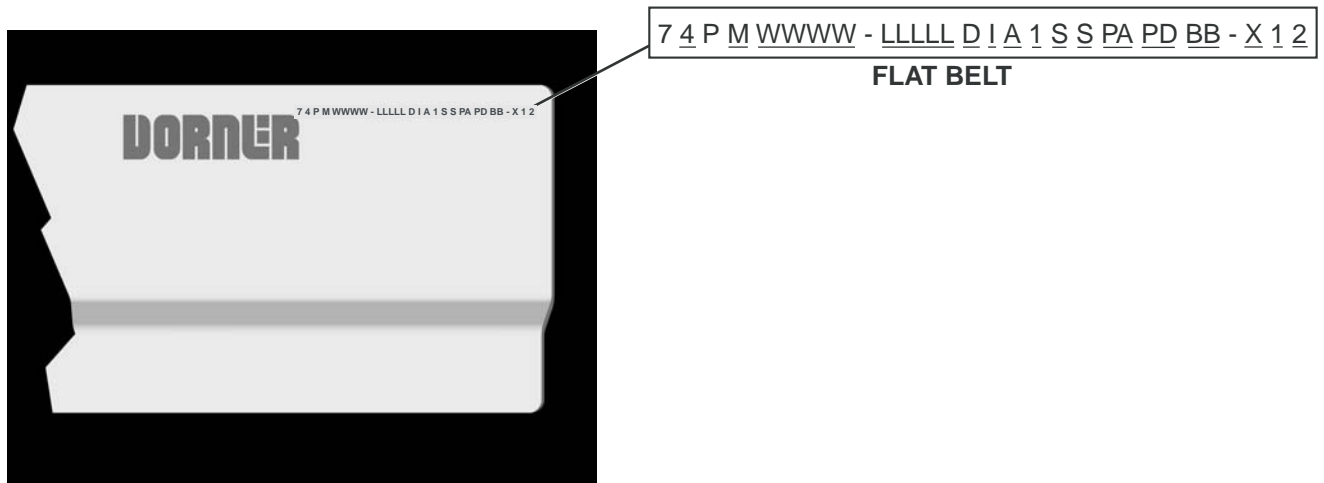

Figure 81
Refer to model number on the conveyor frame (**Figure 81**). From the model number determine the conveyor width (WWW), length (LLLLL) and belt type (BB). Use data to configure belt part number as indicated below.